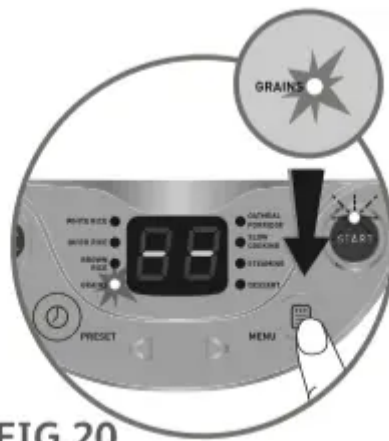

FIG.20
- Press "Menu" button while in standby mode until the "Grains" indicator light turns on, the digital screen will display "--" and the "Start" indicator light will flicker – Fig.20. Press the "Start" button, the cooker will enter "Grains" cooking mode, the "Start" indicator light will remain on and the digital screen will display "-" – Fig.17.